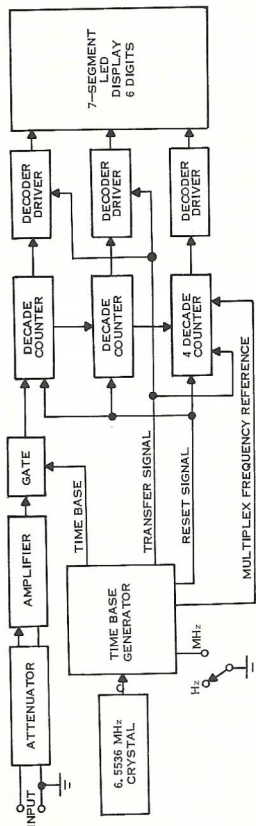
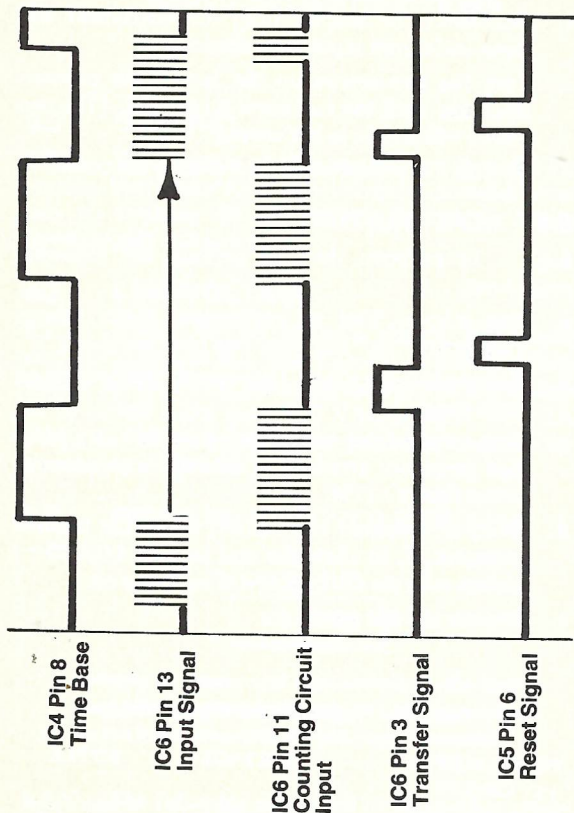

Figure 5-1. Block Diagram
Figure 6-1. Timing Diagram Frequency Measurement shown in Hz position)
5.1.1 This section describes the theory of operation of the 710. All modes of operation are described first, then, description of the circuits follows. (Figure 5-1 shows the overall block diagram of the Instrument).
5.2.1 This circuit arrangement (as shown in Figure 5-1) permits control of the Gate by time base generator signals. The Gate is opened for a controlled time; therefore, the accumulated count represents the number of input cycles or pulses during this time. Controlled interval is selectable by the front panel pushbutton switch either in 10 mSec or 1 sec. The decimal point is automatically positioned, and the readout is in Hz, or MHz as indicated by the pushbutton switch position (Figure 6-1 Timing Diagram).
5.3.1 The amplifier (Figure 5-1) consists of a junction field-effect (high input impedance) transistor; AC coupled to a wide-band, linear-integrated circuit amplifier. Sufficient gain is maintained for a frequency response of 10 Hz to 60 MHz. Input overload protection is provided by two silicon diodes at the input of the amplifier.